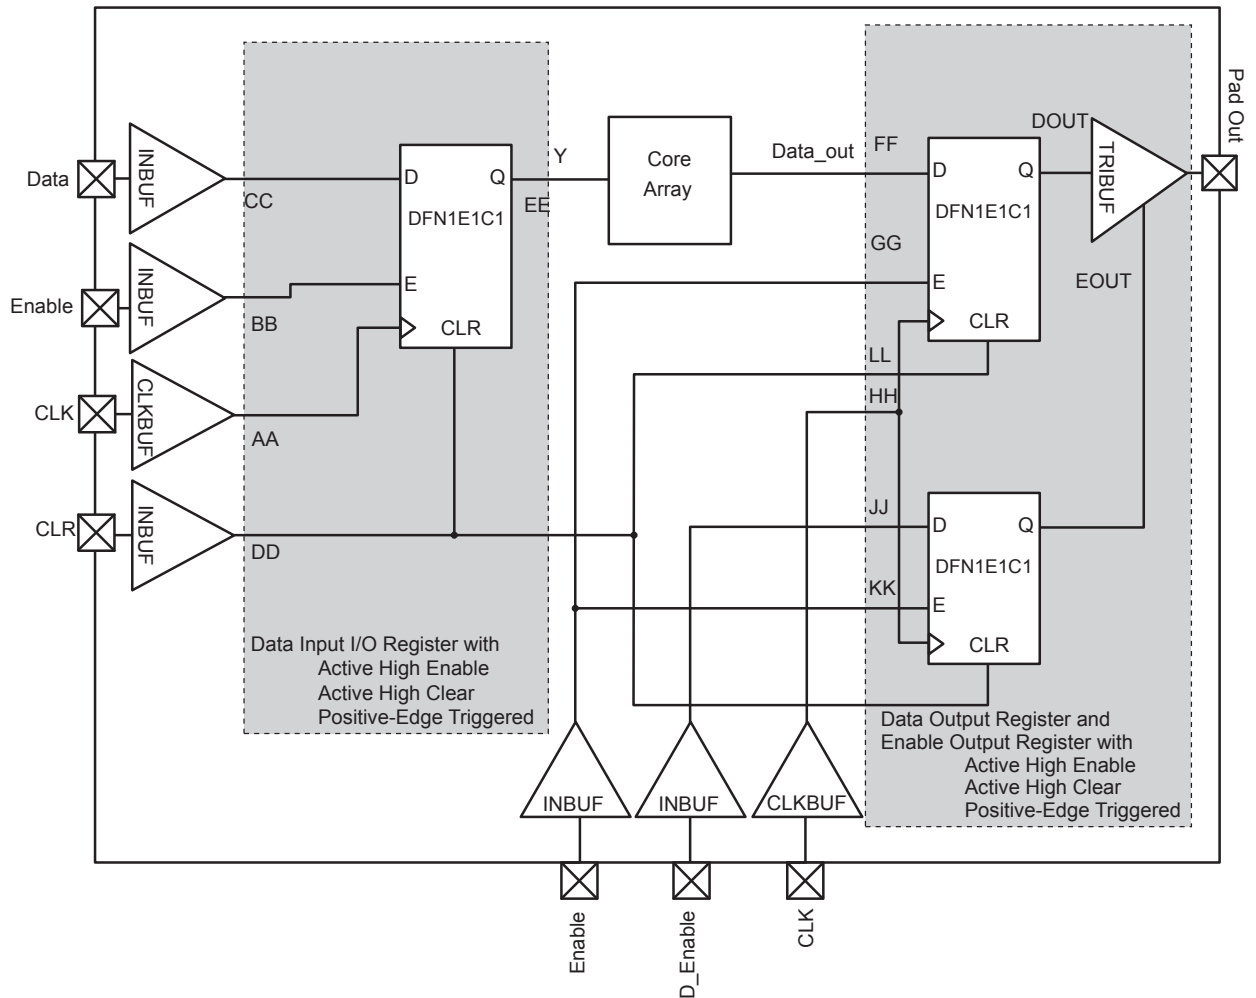

**Figure 2-16 • Timing Model of the Registered I/O Buffers with Synchronous Enable and Asynchronous Clear**
**Note:** \*See Figure 2-16 on page 2-71 for more information.